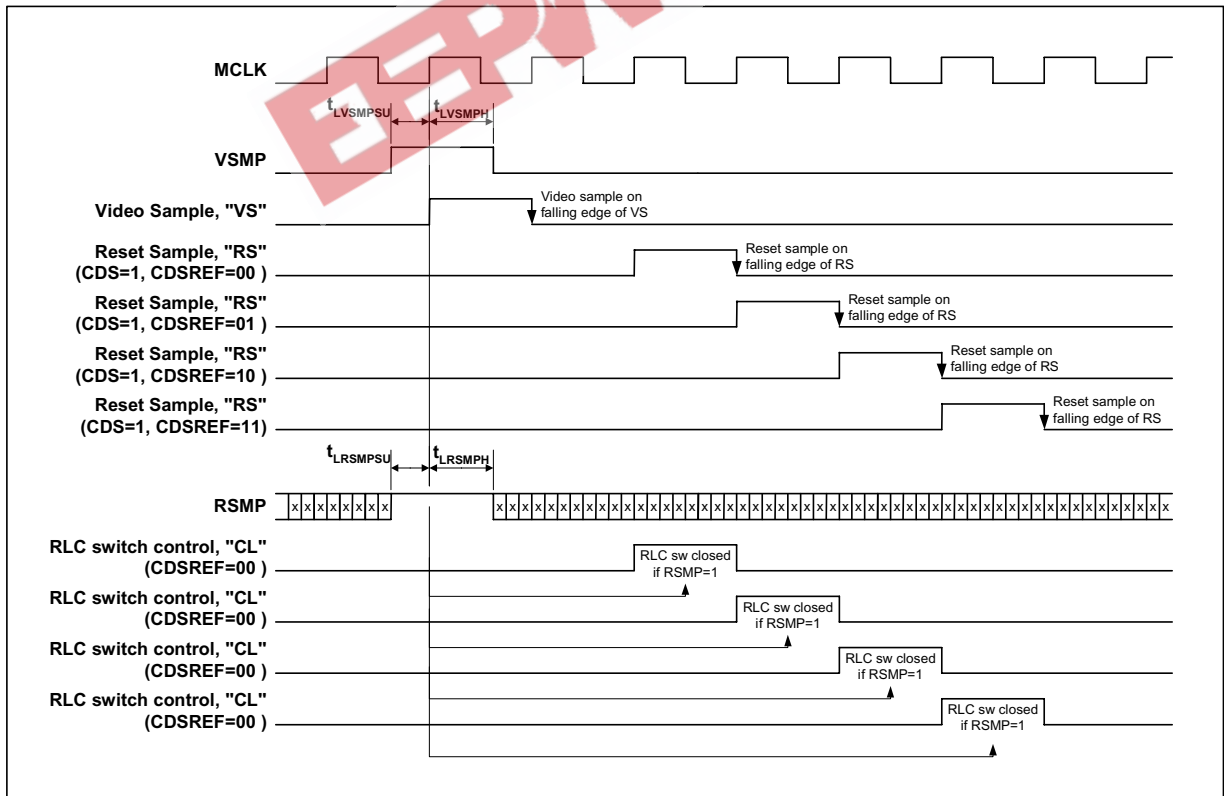

Figure 8 LEGACY Mode RLC and Sampling (LEGACY=1)
Reset Level Clamping in LEGACY mode is only possible in CDS mode and the time at which the clamp switch is closed is concurrent with the reset sample period, RS, as shown in Figure 8. RLC can be enabled on a pixel by pixel basis under control of the RSMP input pin. If RSMP is high when VSMP is high and is sampled by MCLK then clamping will be enabled for that input sample at the time determined by CDSREF[1:0]. If RSMP is low at this point then the RLC switch will not be closed for that input sample. If RLC is required on every pixel then the RSMP pin can be constantly held high in LEGACY mode.
In LEGACY mode the input video signal is always sampled on the 1st rising edge of MCLK after VSMP has gone low (VS) regardless of the operating mode. If in non-CDS mode (CDS=0) the voltage on the VRLC/VBIAS pin is also sampled at this point. In CDS-mode (CDS=1) the position of the reset sample (RS) can be varied, under control of the CDSREF[1:0] register bits, as shown in Figure 8.